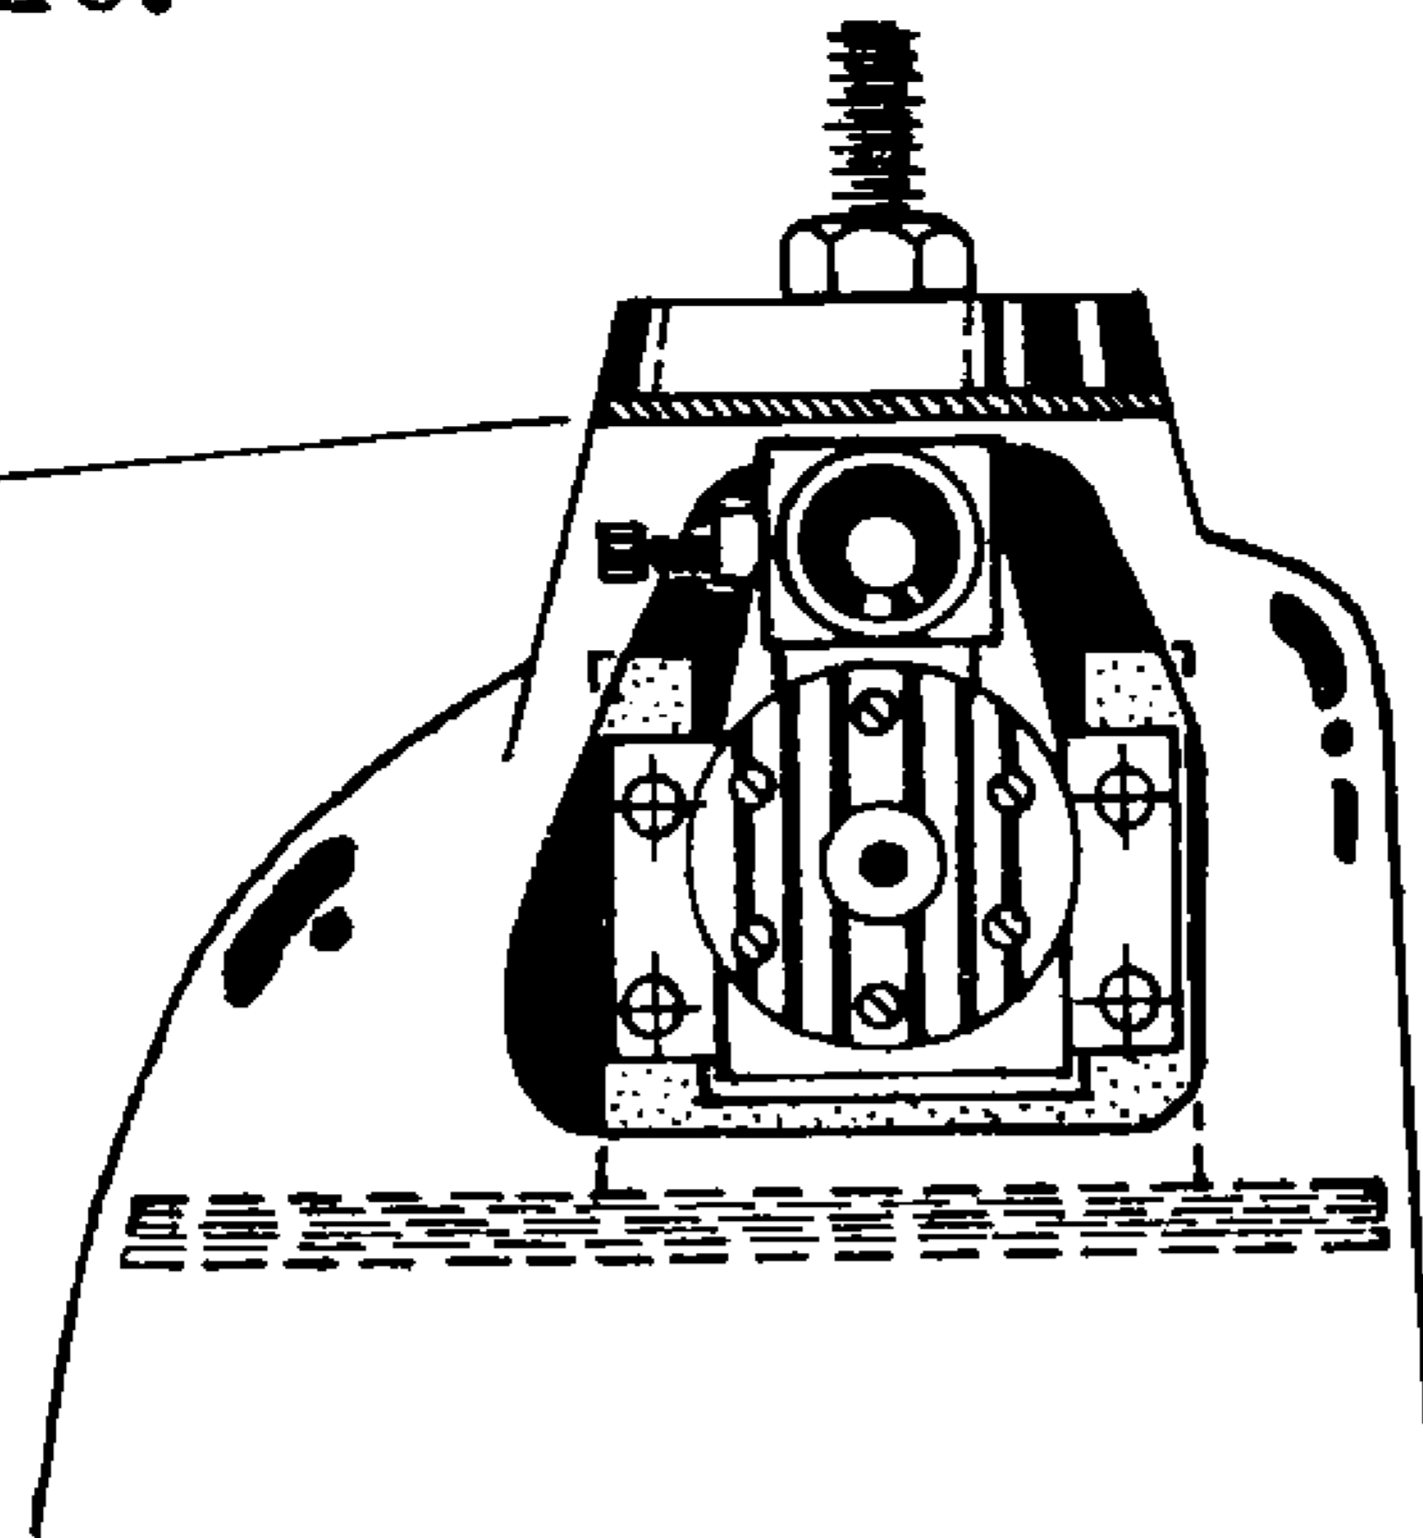

Fig. 19
23. Using a Dremel tool, cut away front side of fuselage to clear engine. Make a 2-1/4" dia. ring from 1/16" thick balsa. Drill a hole through it's center to tightly fit your engine's prop shaft. Mount engine in the motor mount and insert into the engine compartment. Place balsa ring on the prop shaft and tighten the rear plate of a Goldberg 2-1/4" spinner onto it. Hot Stuf the ring sparingly to the fuselage as in figure 19. Coat rear of the motor mount with 5-minute epoxy. Insert firewall through the wing saddle opening and press it against the motor mount. Note that the engine has a 2° offset built in (figure 20). Glue firewall to fuselage at several places with 5-minute epoxy. When cured, remove engine leaving the motor mount in place. Securely glue the firewall to the fuselage with slow-drying epoxy and fiberglas cloth. When the firewall has cured completely, drill holes through the motor mount into the firewall and install mounting bolts and blind nuts.